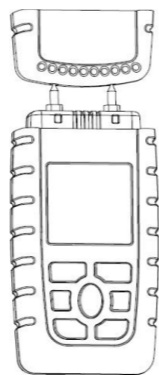

Figure 2-7-1
- The meter should display “Material 1” after turning on. If not, you should press “Material” button to choose materials 1. Use the meter to test the cover’s test point as Figure 2-7-1. If moisture reading between 34.5%~35.5%. The meter’s moisture function is good, otherwise it is NG. Please contact local distributors in time.